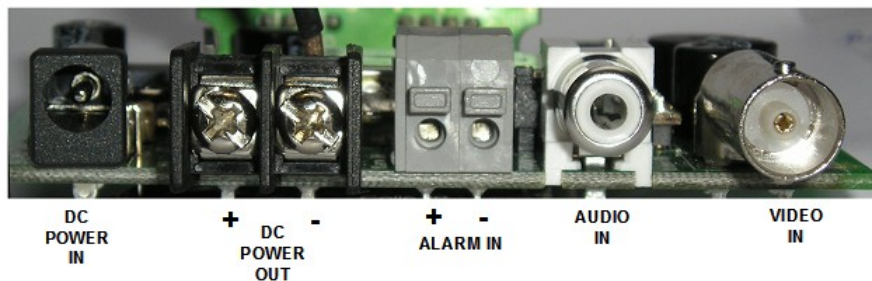

Figure 4 X-Crypt Tx Connections
Should connection to an external alarm sensor be required, e.g. PIR, then the normally open relay contacts of the device should be connected to the grey PCB connector as shown in Figure 4 below. Note that cables are connected by pushing the grey buttons in and sliding the bared end of the cable into the hole. Releasing the button causes the cable to be firmly gripped by the connector.
If indication of an alarm event is required then “Alarm Mute” switch (4) on the red DIP switch should be set OFF, enabling the on-board buzzer. Setting this switch to ON will disable the on-board buzzer, however alarm function will continue to operate and the red “Power On” LED will continue to flash. The alarm will sound for 20 seconds and then automatically reset. If an earlier reset is required then the reset pushbutton shown in Figure 4 below should be pressed, assuming easy access.
If +12V DC power is required for the associated camera this can be supplied via the black screw terminal connectors shown in Figure 4 below. Note that the maximum current available is 750mA, when a 1A power supply is used.
If indication of an alarm event is required then “Alarm Mute” switch (4) on the red DIP switch should be set OFF, enabling the on-board buzzer. Setting this switch to ON will disable the on-board buzzer and the alarm output functionality, however the red “Power On” LED will continue to flash. The alarm will normally operate for 20 seconds and then automatically reset. If an earlier reset is required then the reset pushbutton shown in Figure 4 below should be pressed, assuming easy access.